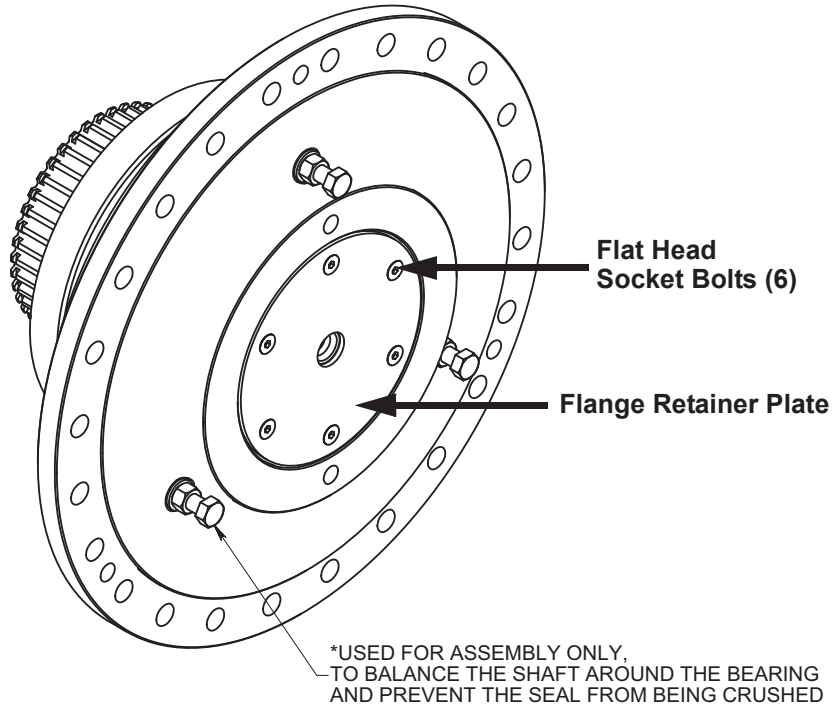

Figure 2: Existing ODS Flange Retainer Fasteners
7. Remove retaining bolts (8) securing the pedestal assembly to the skid and remove the pedestal unit.
8. Remove remaining bolts (24) on the drillers side of the drum and remove the drum unit assembly.
9. On the ODS planetary assembly, remove the flat head socket head bolts (6) and flange retainer plate (See Figure 2).